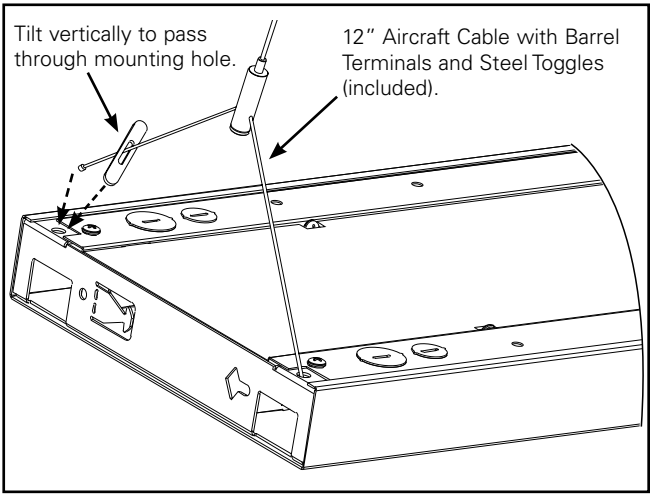

Figure 1.
- 1. Insert Barrel Terminal into corner hole. (Figure 1.)